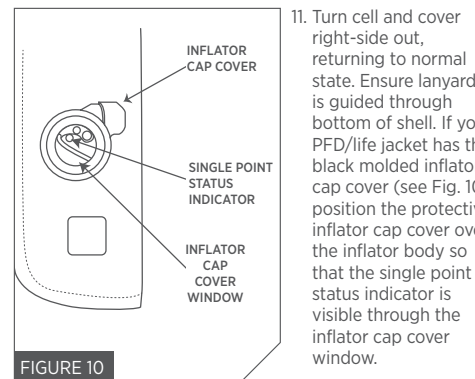

FIGURE 10
11. Turn cell and cover right-side out, returning to normal state. Ensure lanyard is guided through bottom of shell. If your PFD/life jacket has the black molded inflator cap cover (see Fig. 10), position the protective inflator cap cover over the inflator body so that the single point status indicator is visible through the inflator cap cover window.